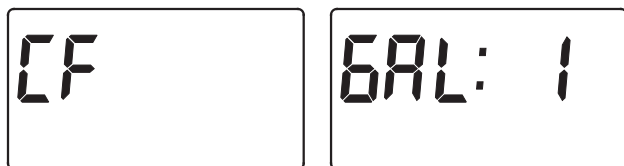

FIG. 24
- 4. CHEMICAL FEEDER TRIP VOLUME:** If you have set the auxiliary output control to CF (Chemical Feeder), you will need to set the volume of water which must flow past the turbine before the auxiliary output is turned on. With the alternating screens in Fig. 24 shown, use the  $\triangle$  UP or  $\nabla$  DOWN buttons to set the trip volume, in gal-